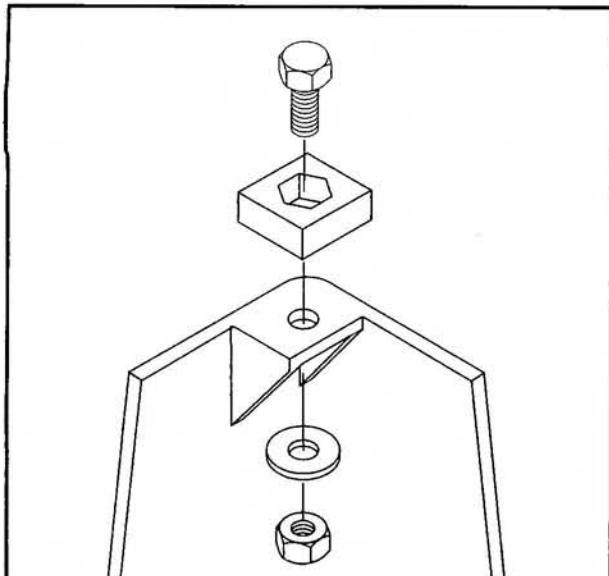

Figure 3.
1. Fasten the plastic feet to all four legs using the M10 - 1.5 x 25mm Hex Bolts, 10mm Flat washers and M10 - 1.5 Hex Nuts supplied. **Figure 3.**